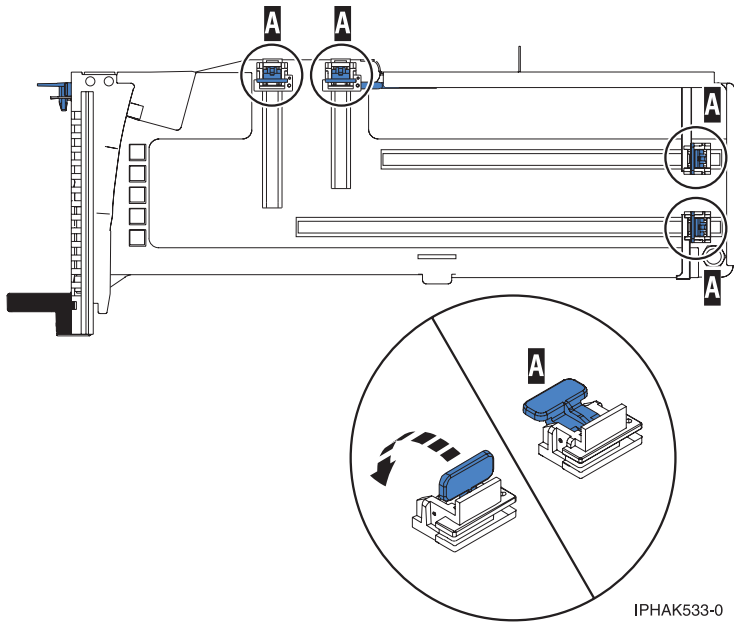

Figure 104. Adapter retainers in a cassette
- a. Ensure that all of the adapter retainers have been pushed out to the edges of the cassette to allow the placement of the adapter. See Figure 104 on page 102.